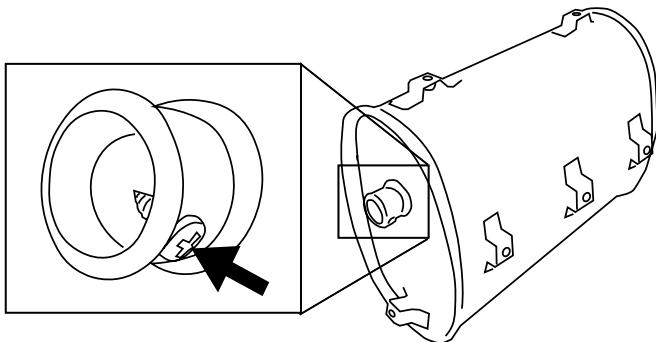

Figure 19: Remove spark arrestor
4. Once the cover is removed, locate the screw on the tip of the muffler and remove. Pull the spark arrestor out of the muffler. (see Figure 19).